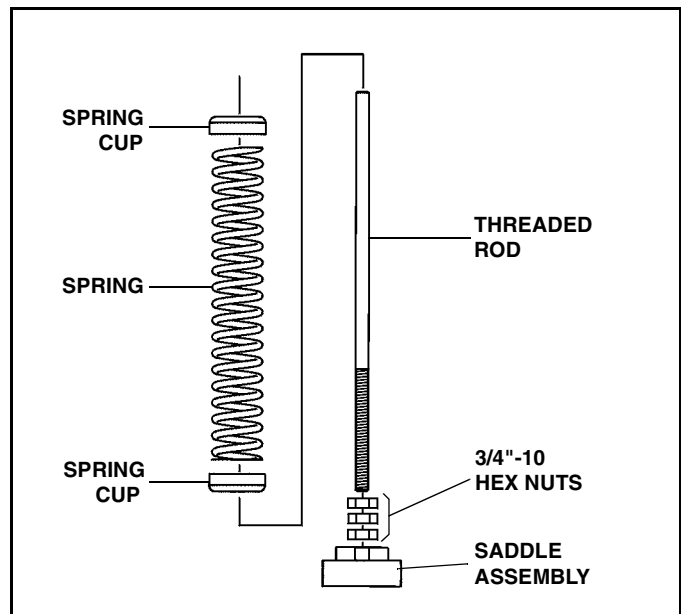

Figure 1-10
5. Assemble the trip springs (See Figure 1-10.):